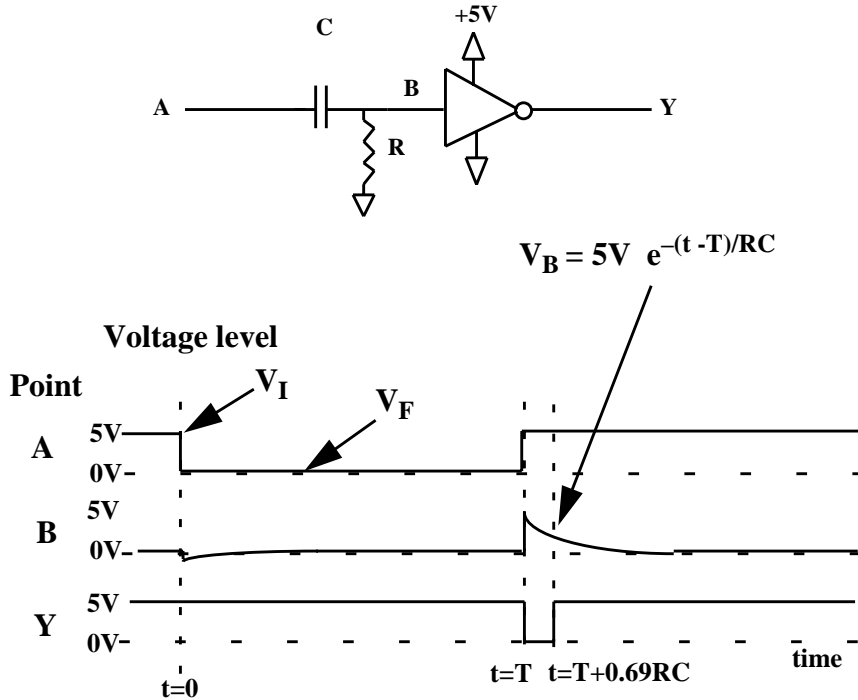

Figure 8.4 A circuit for converting long pulses in to short pulses using an inverter, resistors, and a capacitor.
There is another type of timing circuit that can be constructed with inverters, resistors, and capacitors (see Fig. 8.4). It is similar to the above delay circuit, except that the capacitor and resistor are interchanged. The function of this circuit is to generate a pulse of short duration from each rising edge of the input waveform.
During the downward going edge of the input waveform shown in Fig. 8.4, the capacitor attempts to maintain itself at the same voltage it was at initially. Unfortunately, since the input was initially at +5V and point B was initially at 0V, then immediately after the input drops to 0V point B should drop to -5V in order to maintain 5V across the capacitor. This does not actually happen because most logic gates do not allow their input voltages to go outside of the power supply voltages (0V–5V in this case). If you look very closely, you will see that the input does go slightly negative, about one V_{D-ON} (0.7V). This is because these CMOS ICs use diodes on the input to keep the input voltage from going more than 0.7V outside of the 0V–5V range.
3. Construct the simple pulse generating circuit shown in Fig. 8.4. Adjust your function generator to output a 0V-5V square wave at a frequency of 100 Hz. First power up your circuit and then connect the function generator. Connect the scope channel 1 to point A and verify that you have the desired square wave. Trigger the scope on channel 1. Now look at point B with channel 2 of the scope. Does it match the wave form in Fig. 8.4? Finally, move channel 2 to look at the output, node C.